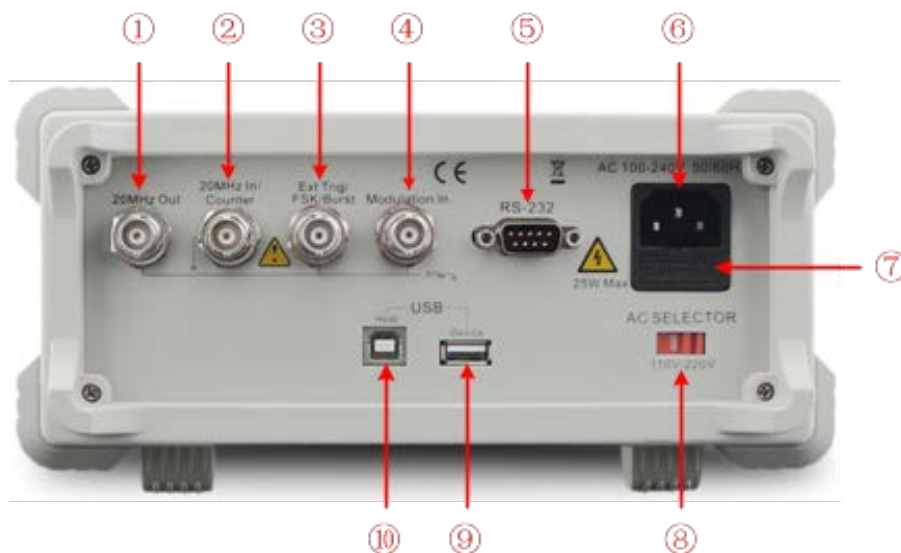

Figure 4-2 Rear panel overview
The waveform generator adopt 110V/220V AC power source. Users should regulate the voltage scale of the **Power Switch** according to the standards in their own country (see *Figure 4-2*) at the rear panel and use an appropriate fuse.
- (1) Turn off the power button at the front panel and remove the power cord.
- (2) Check if the fuse installed before leaving factory (250 V, F2AL) can match with the selected voltage scale; if not, pry the cover open using a straight screwdriver (see ⑦ in *Figure 4-2*), change the fuse.
- (3) Regulate the **Power Switch** to the desired voltage scale.